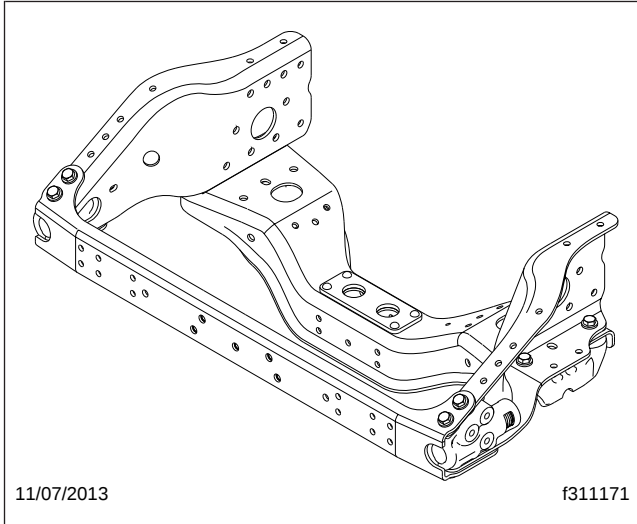
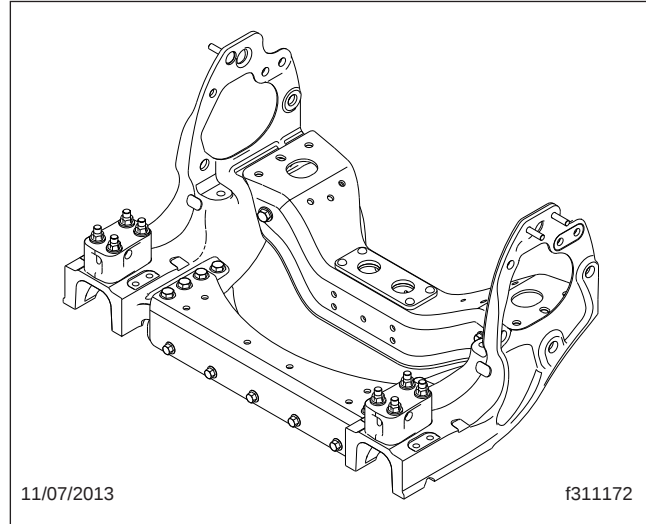
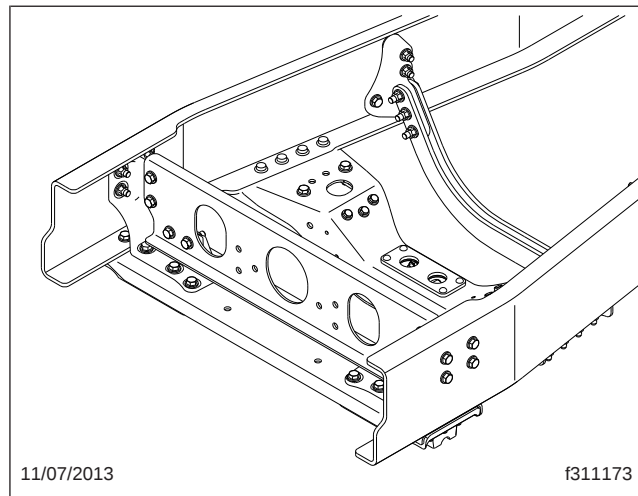

Fig. 2, Bolt-On Front Frame and Crossmember
Fig. 3, Drop-Cast Front Frame and Crossmember
Fig. 4, Splayed Front Frame and Crossmember
IMPORTANT: Before scheduling a vehicle for this procedure, determine the vehicle configuration. The required parts for this procedure will vary depending on if the vehicle being serviced has a set forward (SF) or set back (SB) axle, the type of engine installed, and the front frame and crossmember configuration. See Fig. 2, Fig. 3, and Fig. 4 for the different frame and crossmember configurations. Refer to Table 1 under "Parts" to locate the correct table listing the required parts for that vehicle.